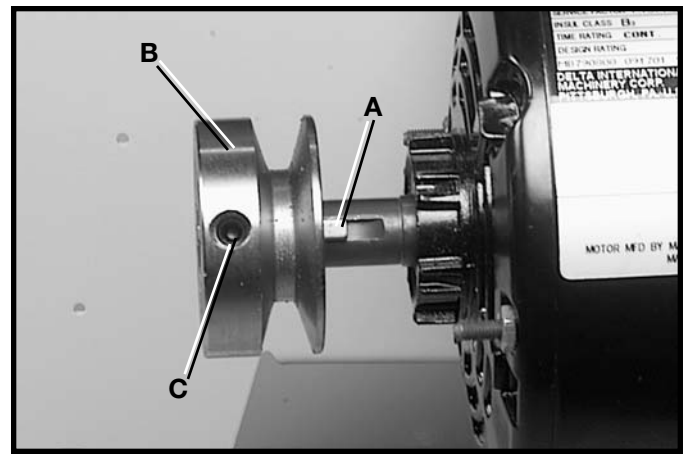

Fig. 16
2. Insert the key (A) Fig. 16, in the keyway on the motor shaft. Assemble the motor pulley (B) on the motor shaft as shown, with the hub of the pulley out. Loosely tighten set screw (C) against key (A) in motor shaft.